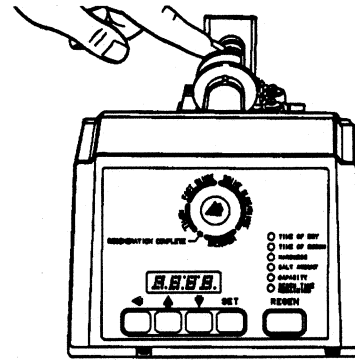
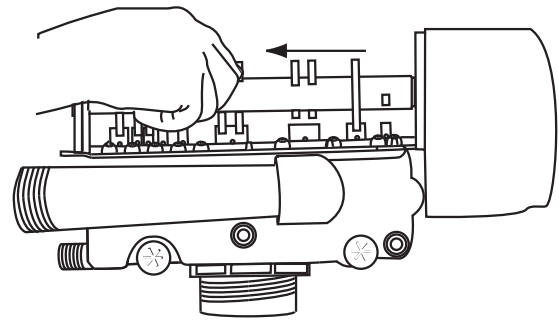

Figure 19
Figure 20
- To remove the camshaft or to reinstall it, the arrow on the shaft must be pointing at the line on the rear "hoop" of the top plate. This occurs when the indicator knob is rotated to the refill position. Press down on the back of the camshaft to disengage it from the rear "hoop" of the top plate, (Figure 19). Slide the camshaft back to disengage it from the timer, (Figure 20).